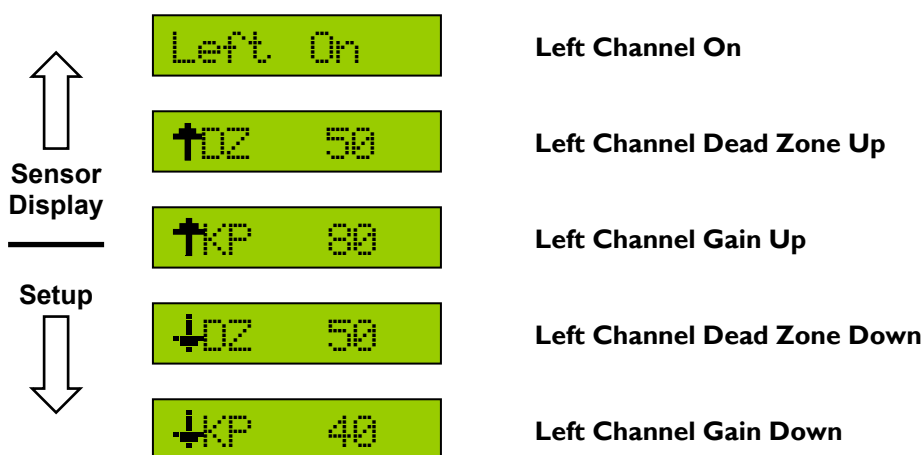

Figure 10: Hydraulic Setup Menu (for Left Channel)
- Press the  button to access the next menu prompt. Choose the dead zone up or down setting (**Figure 10**).
- Press the  button to access the next menu prompt. Choose the gain up or down setting (**Figure 10**).